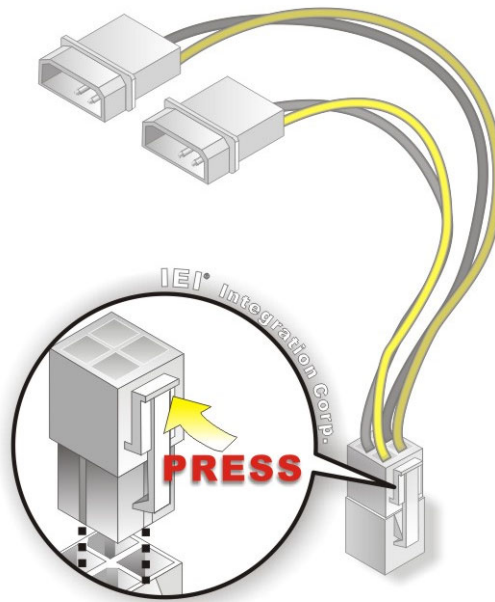

Figure 4-14: Power Cable to Motherboard Connection
Step 2: Connect the Power Cable to the Motherboard. Connect the 4-pin (2x2) Molex type power cable connector to the AT/ATX power connector on the motherboard. See Figure 4-14.